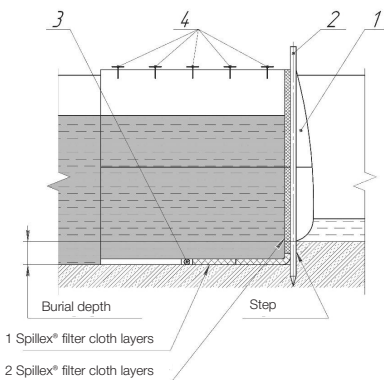

Figure 2. Installation scheme of Spilltex® filter cloth – 2/15 for shallow rivers at the outlet of the sump.
To organize a sump on a river, a place with the most solid ground along the banks is selected. The banks should be at least 0.7 m in height. An excavator expands the flowing part of the river by 0.5-1 m in each direction and bury it by 0.3-0.7 m (Figures 2 and 3).
3. Racks (1500 mm) are installed vertically behind Spilltex® cloth at a distance of 0.4 – 0.7 m from each other. They are attached to the bottom of the sump at a depth of at least 10 cm. The racks are installed at the boundary of the sump depth, so that the ground layer formed at the burial depth serves as a support to provide better resistance of Spilltex® cloth to the river flow (Figures 2 and 3).